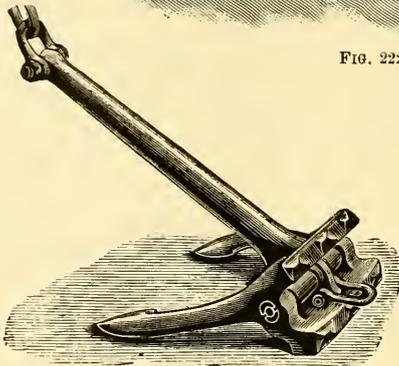

FIG. 223.
*Anchor (Hall's Stockless).*—This appears to be an adaptation of Waste-neys Smith's anchor. The flukes of the anchor are fixed at an angle of 54° with the shank, and, being part of the head, are at liberty to move freely on the trunnion of the shank. The whole of the holding strains are entirely contained in these two main pieces, without the intervention of bolts, cotfers, pins, or keys. The shank of this anchor, being stockless, can be readily drawn into the hawse pipe and snugly stowed alongside the ship, where it is always ready for use without any catting or lifting on deck (see Fig. 223). The inventor is Mr. J. F. Hall, general manager to Messrs. Wm. Jessop and Sons Limited, of Sheffield.